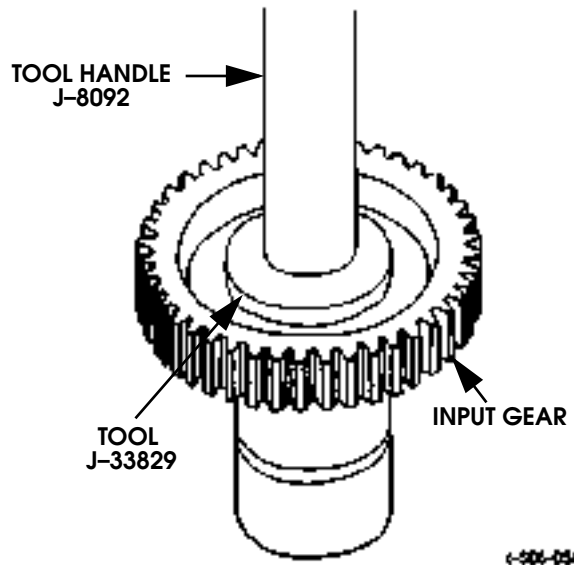

Figure 5-125: Installing Mainshaft Pilot Bearing In Input Gear
2. Install new pilot bearing in gear with tool handle J-8092 and tool J-33829 (Figure 5-125). Seat bearing flush with chamfer in bearing bore.